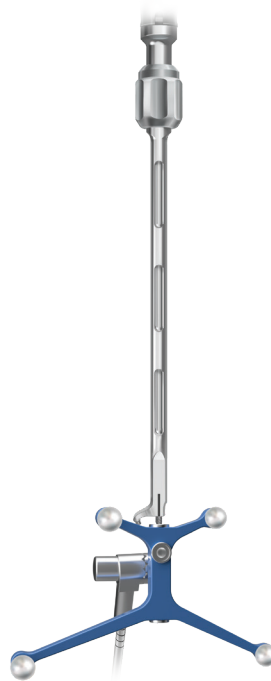

Figure 15
2. Verify the NavLock™ tracker with the Anteralign™ LS inserter. To do this, the Tip field must be set to Verify Inserter. The inner threaded shaft must be placed in the reference frame divot (**Figure 15**).